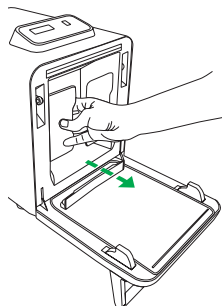

Figure 9
6. Clean and disinfect the blending chamber using appropriate cleaning products. (Fig. 9)